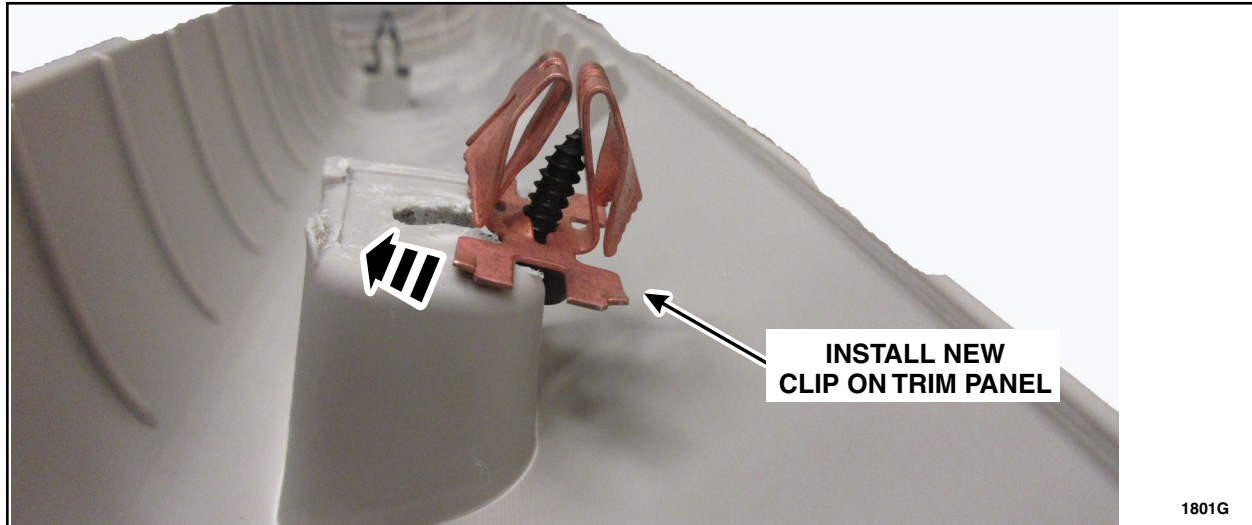

FIGURE 8
6. Install the new A-Pillar trim panel clip onto the trim panel. See Figure 8.